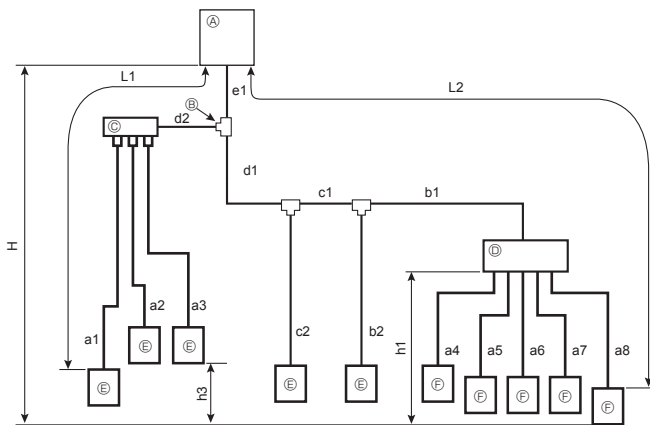

Fig. 5-17 (a)
(2) Mixed system (City Multi indoor units and M/S/P series indoor units via Branch box) (Fig. 5-17)